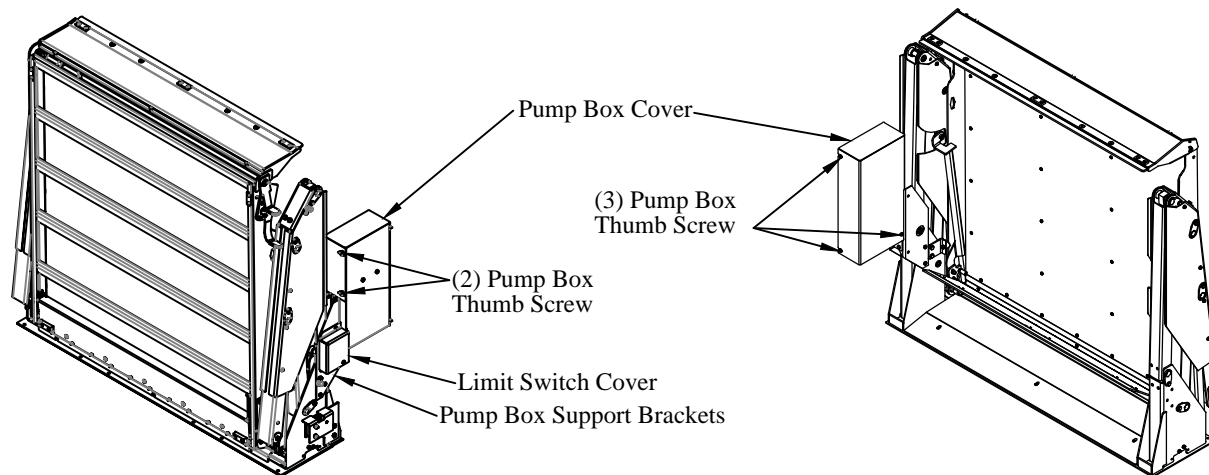

Figure 4: Pump Box.
1. **Remove** the pump box cover by removing five (5) thumb screws (Figure 4).
2. **Remove** and **Save** limit switch cover (Figure 4).
15. Remove and Save four (4) 5/16" bolts with lock washers and nuts attaching pump box to support brackets (Figure 4).
23. **Replace** limit switch cover (Figure 4).
10. **Install** the pump box cover and screws (Figure 4). Make sure the wires and solenoids clear the cover.